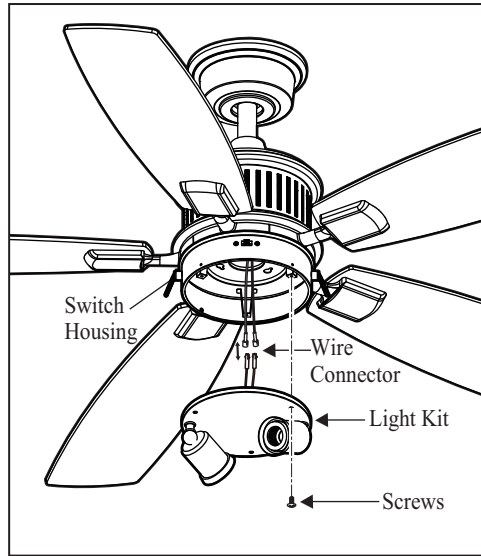

Figure 21
1. Remove the three light kit mounting screws from the switch housing and keep these screws. (Fig. 21)
(Fig. 21)
3. Carefully push all wires back into the switch housing. Install the light kit onto the switch housing with the three light kit mounting screws provided. Be sure to tighten all screws. (Fig. 21)